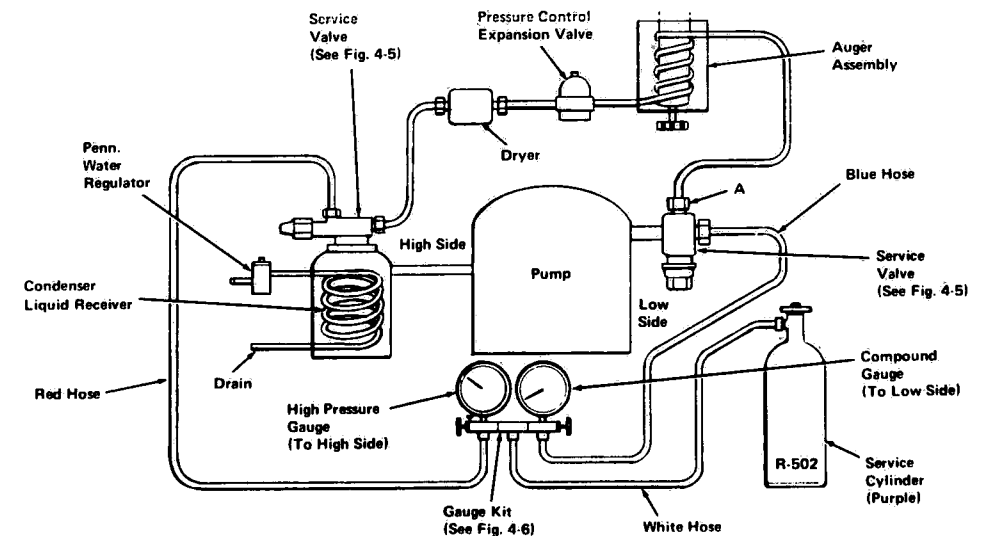

Figure 4-4. RECHARGING ICE FLAKER REFRIGERATION SYSTEM.
#### Recharging Refrigeration System (Figs. 4-4, 4-5 and 4-6)
17. Loosen flare nut ("A" on Fig. 4-4) connected to low-side service valve.